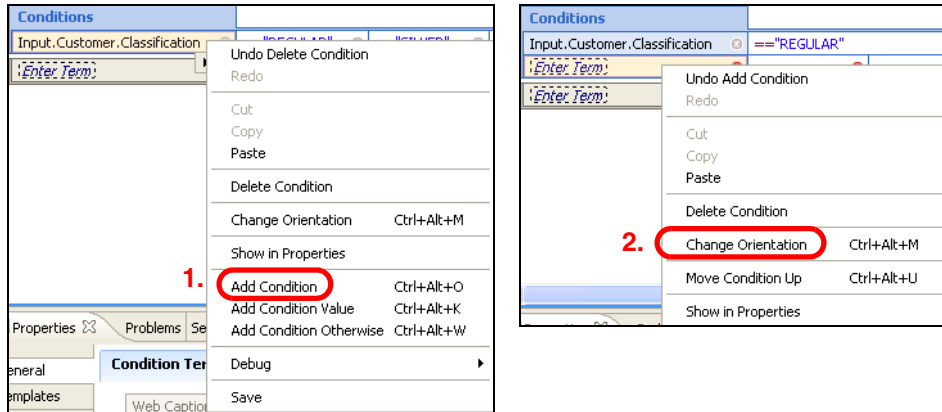

Figure 16-10 Decision table: Add condition and change orientation
- ▶ Right-click in the condition with the text `Input.Customer.Classification` and select *Add Condition*. In the new condition field right-click and select *Change Orientation* (Figure 16-10). You can also click the  icon.